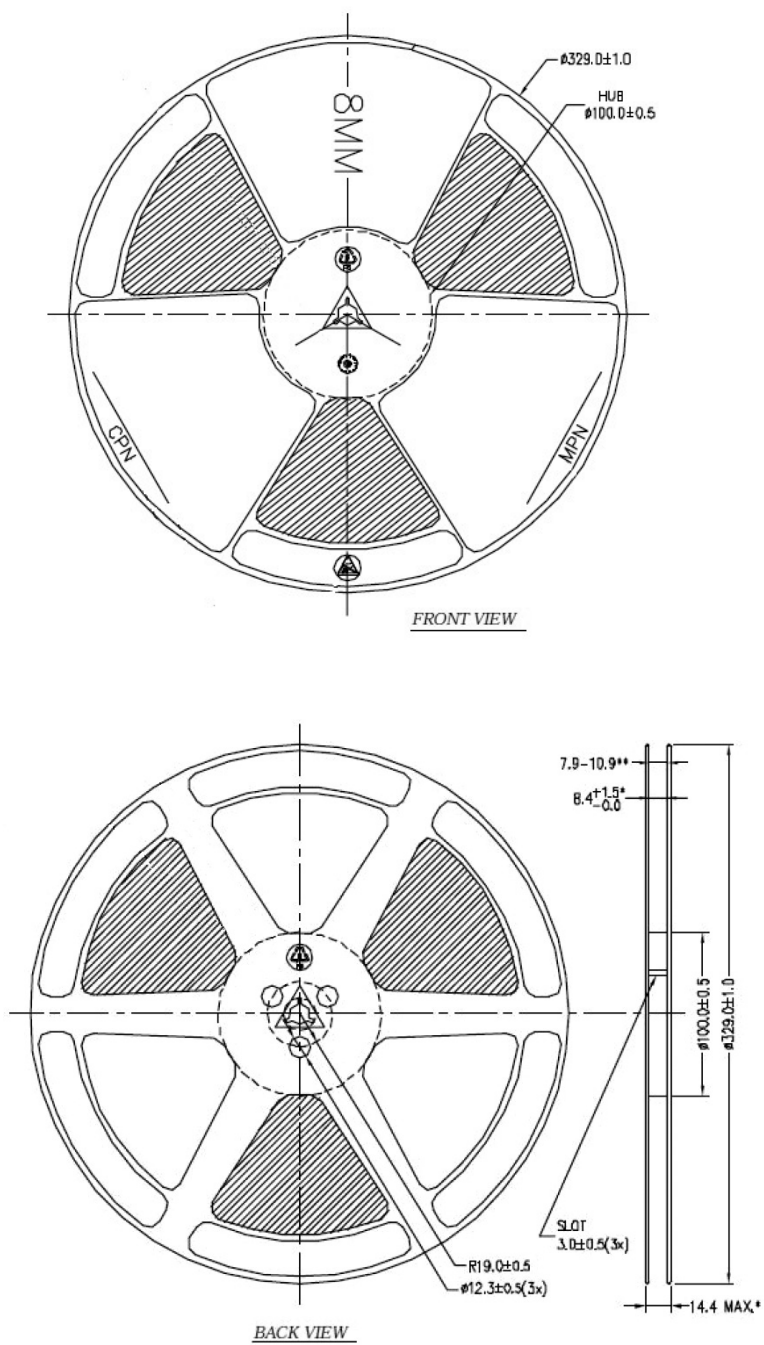

Figure 15. Reel dimensions for LUXEON Z Color Line.
Notes for Figure 15:
- Notes for Figure 15: